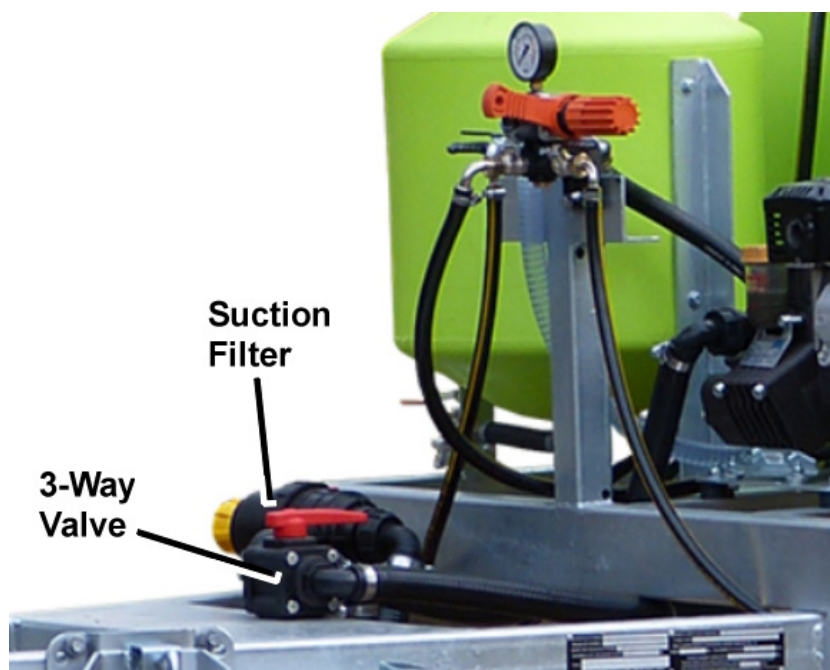

Figure 10 – Suction Filter and 3-Way Valve
- After spraying operations are complete, drain any residual fluid by opening the suction filter housing adjacent to the bottom of the tank, refer to Figure 10. Capture and dispose or store any fluid in accordance with environmental and work safety requirements.
- Unscrew the suction filter cover (refer to Figure 10) and remove the filter screen and gasket. Soak the filter screen in clean water, brushing carefully with a nozzle brush. When re-assembling, ensure the gasket is in position.